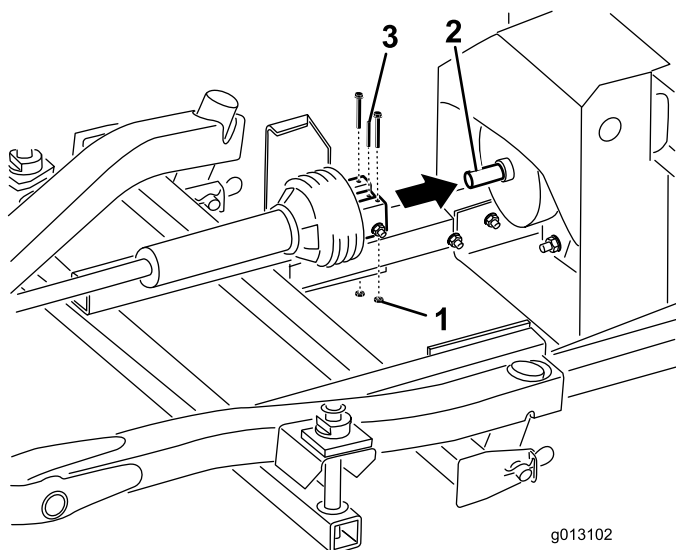

Figure 8
4. Install the other end of the male drive shaft to the blower shaft, securing it with a roll pin and 2 bolts (5/16 x 1-1/2 inches) and locknuts (5/16 inch) (Figure 8).